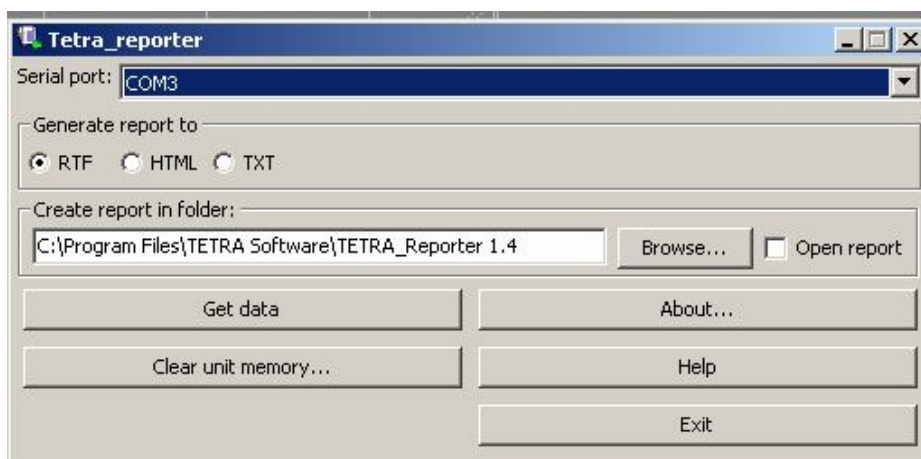

Figure 3.5
3.6.8 Select the serial port number in the dropdown list "Serial port" as described in 3.6.2 (see Figure 3.5).